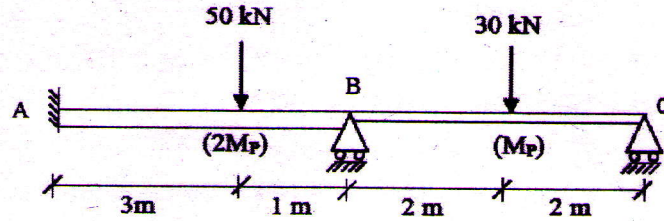

Fig.6
- 7 a) List out the circumstances where curved beams are provided. (4)
b) Discuss the different types of forces developed in a curved beam. (6)
c) Derive an expression for deflection at the free end of a quarter circle beam of radius R carrying a vertical load P at its free end. Sketch the shear force, bending moment and its torsional moment diagrams. Assume flexural rigidity (EI) = torsional rigidity (GJ). (10)
- 8 a) What are the assumptions made in theory of plastic analysis? (5)
b) Derive an expression for collapse load for a simply supported beam of span L carrying a concentrated load of W at centre by static and kinematic method. (5)
c) Calculate the plastic moment carrying capacity required for the continuous beam with the working loads as shown in fig.6. Take load factor = 1.5 (10)